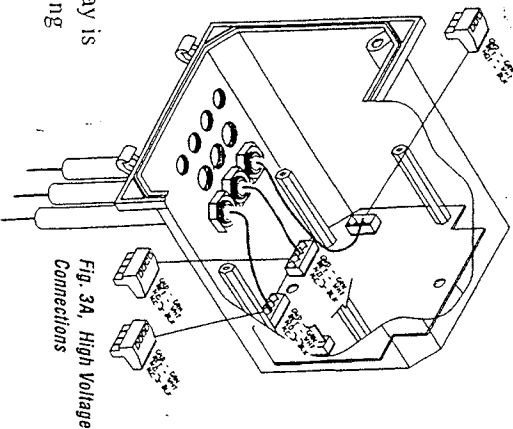

Fig. 3A, High Voltage Connections
Please refer to Fig. 3A and 3B, High Voltage Connections. Units must be wired by the customer in accordance with all applicable electrical codes (i.e., NEC). When maximally loaded, the unit will draw 10.5 Amps. Each relay is capable of supplying 5 Amps. Size wiring accordingly.
It employs a normally open (NO), a normally closed (NC), and common (or neutral) connections. In this example, the first device is connected at J7. Location is behind control panel (see Fig. 3A).